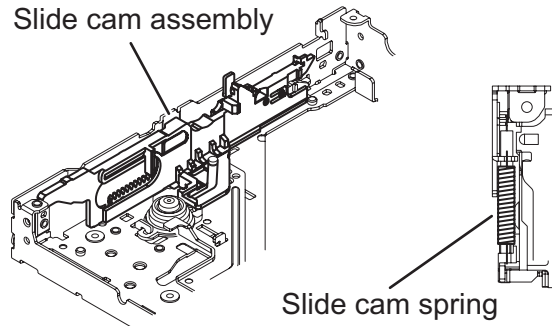

Fig.13
3.2.7 Removing the Slide cam assembly (See Fig.13)